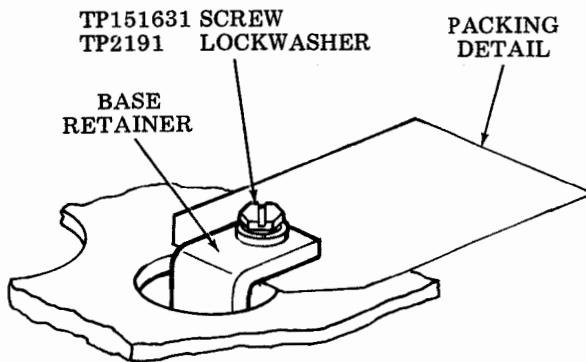

Figure 8 - Base Retainers
4.01 Remove the 6-40 screws from the two base retainers (Figure 8). **DO NOT REMOVE THE BASE RETAINERS.** Remove packing detail between base and pan. When